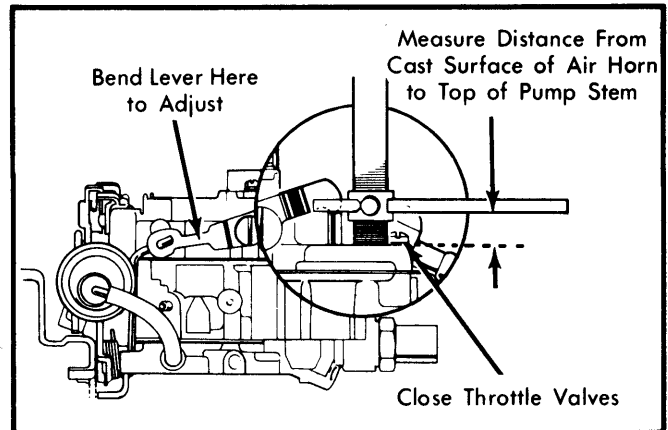

Fig. 3 Adjusting Accelerator Pump
- 1) Close throttle valves completely. Make sure fast idle speed screw is off fast idle cam. See Fig. 3.